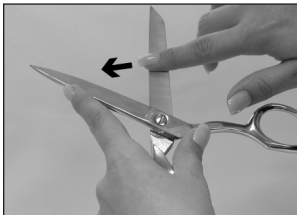

Figure 12: Carefully feel for a burr along the entire back of the blade. Note arrow for direction of finger movement when in contact with blade.
4. During the sharpening process you will need to know how to feel for a burr on the scissor blade in order to know when sharpening is complete. Feeling for a burr involves running your finger carefully across (NOT ALONG) the back of the blade as shown in Figure 12. A burr is a microscopic bending of the tip of the edge produced during the sharpening process which can be felt but is not
6. Holding the inside flat face of the blade constantly in intimate contact with the guiding surface while maintaining the edge in solid contact with the diamond abrasive pad, move the scissor blade forward and backward in a cutting or sawing-like motion 4 or 5 times. Stop and check to determine if a burr has formed on the flat face along the entire length of the edge (Figure 12). You may find it convenient to hold the blade guide with your left thumb and/or forefinger as shown in Figure 13.
8. When a burr has been created along the entire length of the first blade, remove the scissor and open and close the blades fully five (5) or more times to cut off the burr.
5. It is essential to learn how to feel for the burr. This is the best indication that sharpening in a given stage is complete. Make certain the burr has formed along the entire blade... from pivot to tip (Figure 12).